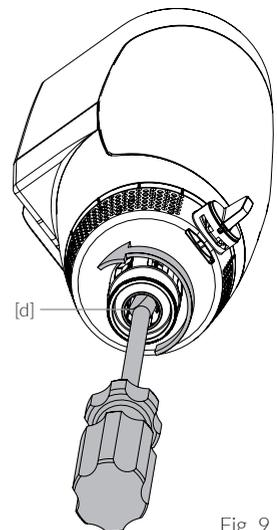

Fig. 9.1
- / Fig. 9.1: Loosen the reducing sleeve [d] from the underside with a slotted screwdriver in the direction of arrow
The **CLEAR** PRO RD domestic water unit and also the **CLEAR** PRO R backwash filter are designed in such a way that the filter element can be cleaned or replaced after disassembly (according to chapter 9.1 Maintenance of pressure reducer, Fig. 9.1 to 9.4).